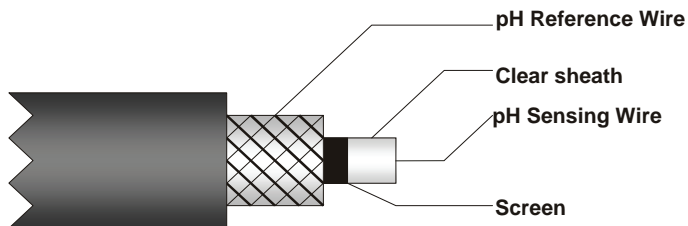

Figure 3 : pH/ORP Electrode Cable
2. Strip the insulation of the cable so that the bare wires are exposed enough for connection as shown in Figure 3.